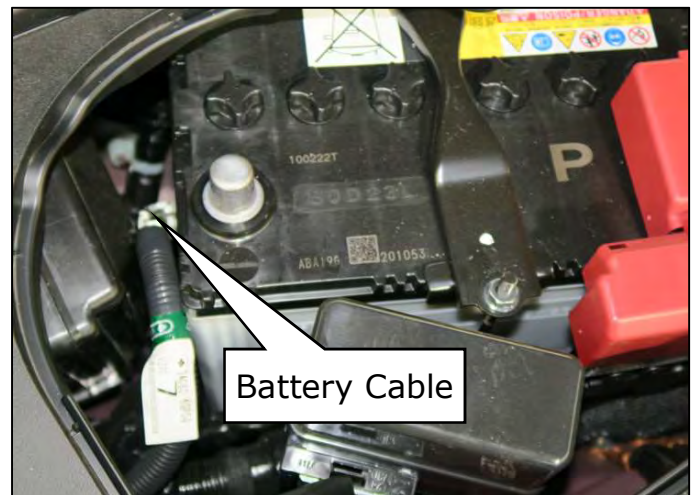

Figure 41
42. Disconnect the battery. (Figure 41)